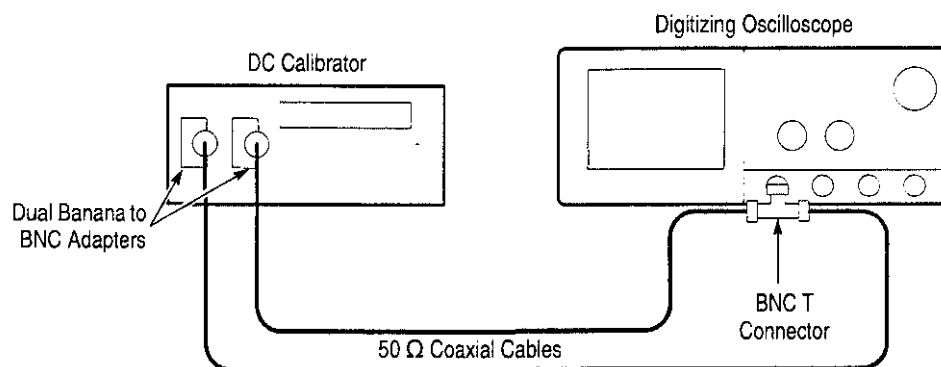

Figure 1-23: Subsequent Test Hookup
- Connect the output of a DC calibration generator through a dual-banana connector followed by a 50 Ω precision coaxial cable to one side of a BNC T connector. See Figure 1-23.
- Connect the Sense output of the generator through a second dual-banana connector followed by a 50 Ω precision coaxial cable to the other side of the BNC T connector. Now connect the BNC T connector to **CH 1**. See Figure 1-23.